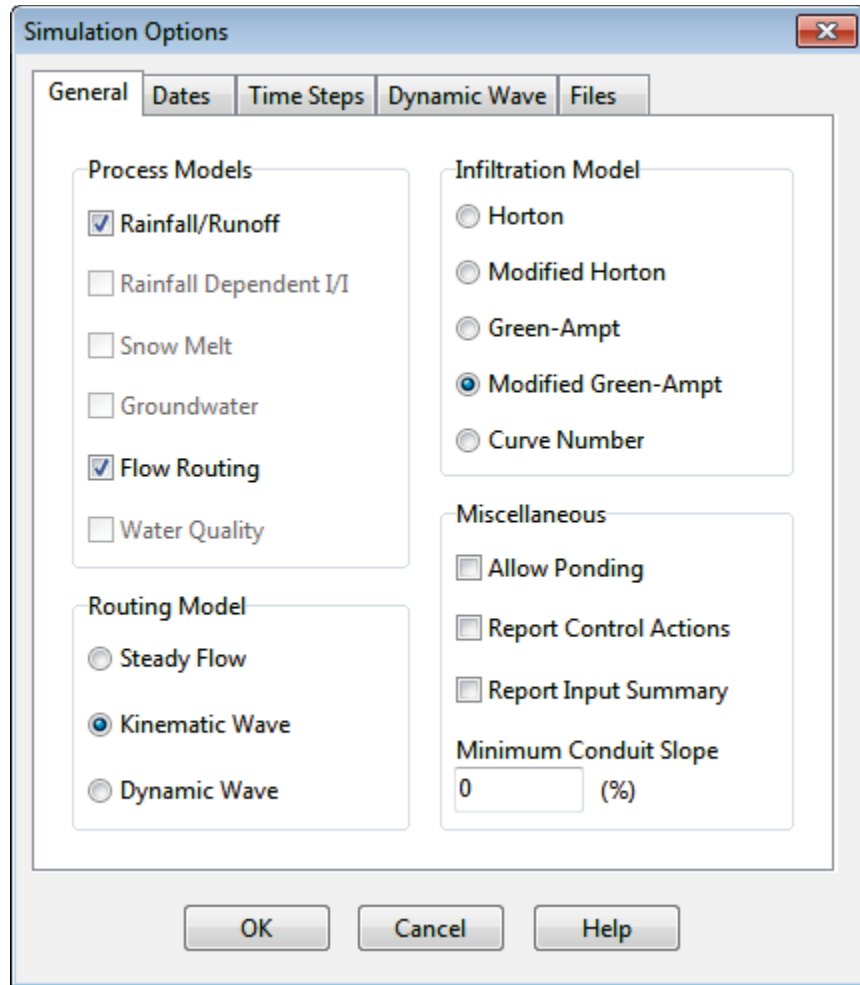

Figure 2-9 Simulation options dialog
2. On the **General** page of the Simulation Options dialog that appears (see Figure 2-9), select **Kinematic Wave** as the flow routing method. The infiltration method should already be set to **Modified Green-Ampt**. The **Allow Ponding** option should be unchecked.